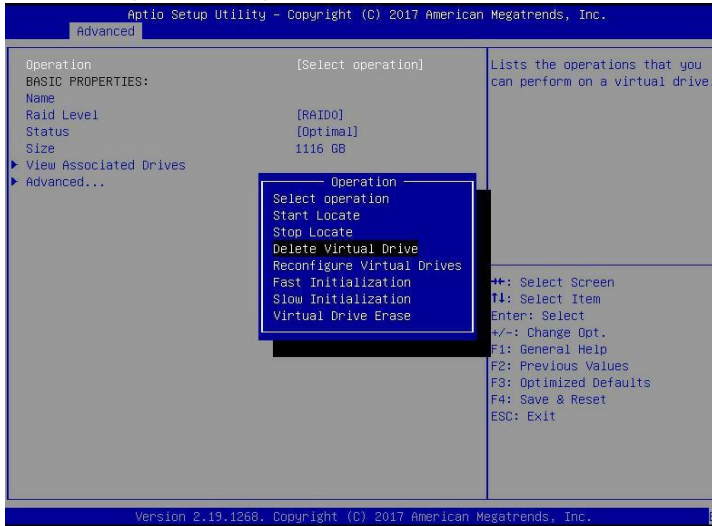

Figure 6-51
c) Enter the interface shown in Figure 6-51, select Operation, press Enter, and then select Delete Virtual Drive in the pop-up dialog box, and press Enter.
❖ Figure 6-51 Operation operation interface